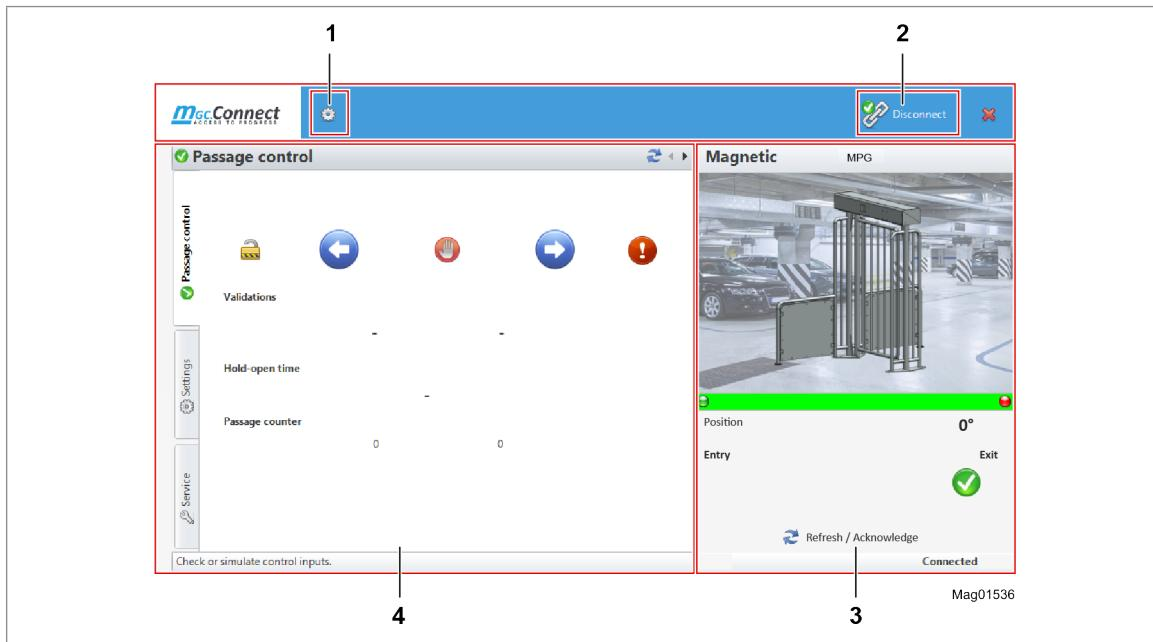

Fig. 4: Exemplary view "MGC.Connect"
1. Open the "Configuration" window. To do so, click the "⚙" button in the header of the MGC.Connect programme. ↗ Page 21, Fig. 4, pos. 1.
You can change the menu language via the "Language" option in the "Configuration" window. Open the "Configuration" window with the  button in the header of the MGC.Connect programme. ↗ Page 21, Fig. 4, pos. 1.